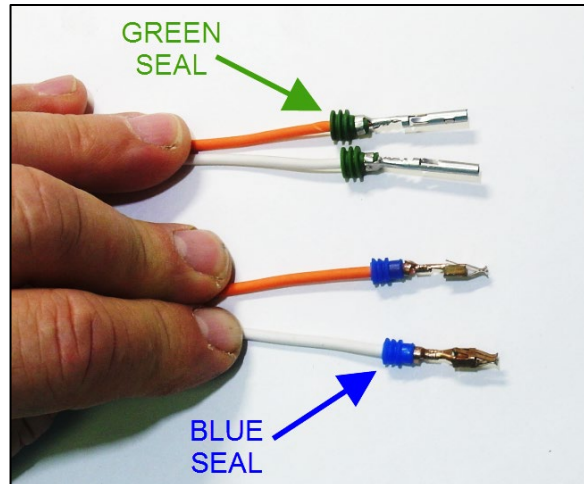

FIGURE 45
79. Install seals on wires as shown in Figure 45.
80. Install terminals as shown in Figure 45, crimp and solder it.